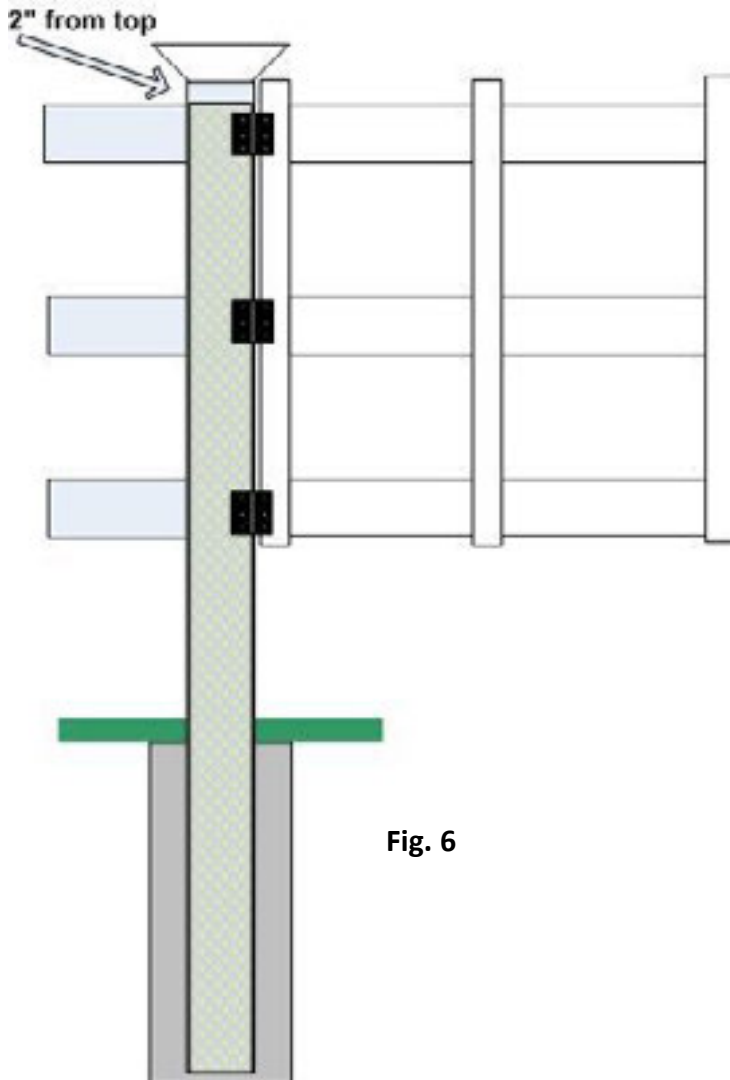

Fig. 6
Re-Bar placed in the corners of the post for extra strength maybe required in some areas or conditions. For ranch rail we recommend back filling the corners, ends and gate post(s) with concrete (Fig. 5). For gate posts you must attach the gate hardware (hinges and latches) to the post before back filling the post with concrete (Fig. 6).
Step 3. Using a large funnel, fill the post with concrete (Fig. 6). Tap lightly on the sides of the post to help void air pockets in the concrete. Repeat these steps until all posts are set.